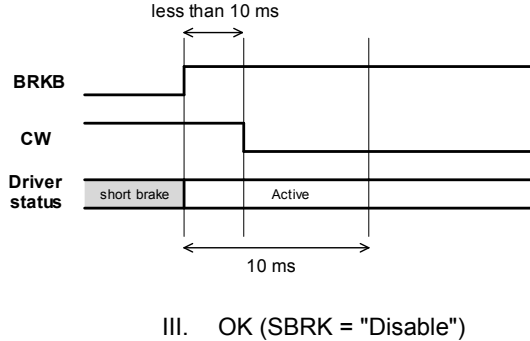

Figure 4. BRKB, CW Control Timing Limitation 2
(2) SBRK = "Disable" (SEL1 = "M2" or "L")
Without the short brake such as (1), direction is replaced. In this case, be careful since high current may sometimes flow in the external FET when the direction is replaced as described. In addition, there is no limitation in timing of BRKB and CW such as (1) in this condition (Figure 4).